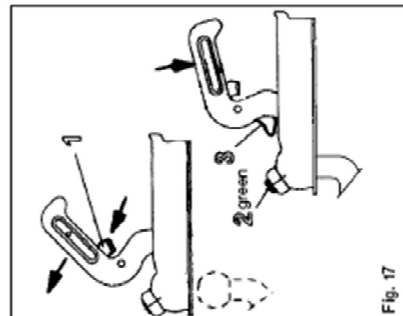

Fig. 17
- 1) Push the safety lever (Fig. 17/Item 1) up with the index finger and lift the handle up and forwards. Put the opened coupling onto the towball with the handle pulled up and in addition press down by hand. The coupling will close by applying a light pressure. Press the handle down by hand until the catch snaps out (Fig. 17/Item 3).
The coupling head is correctly engaged when the green cylinder part of the safety indicator is visible (Fig. 17/Item 2).